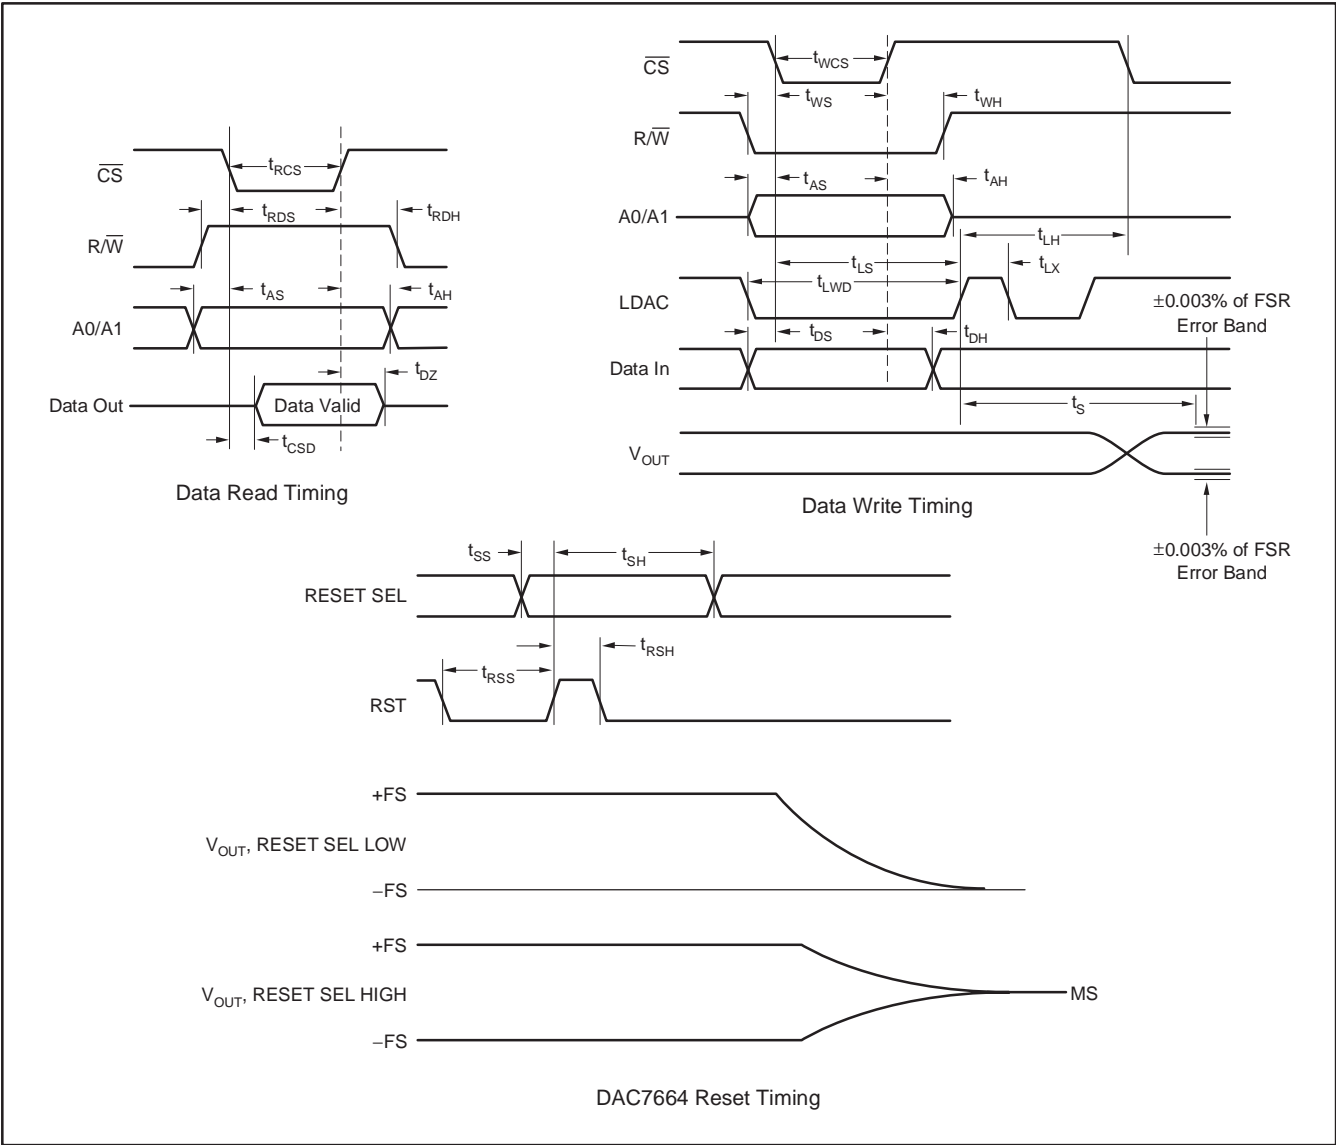

Figure 57. Digital Input and Output Timing
Figure 57 and Table 2 provide detailed timing information for the digital interface of the DAC7664.
**Table 2. Timing Specifications for Figure 57**